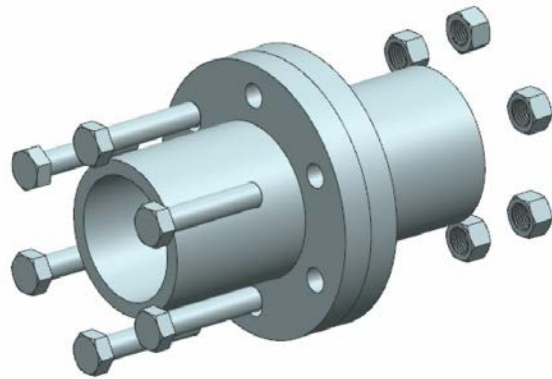

Figure 9-42 The assembly after exploding all Nuts
7. Enter **150** in the **Distance** edit box of the **Auto-explode Components** dialog box and choose the **OK** button; the Nuts are exploded. The assembly after exploding all the nuts is shown in Figure 9-42.